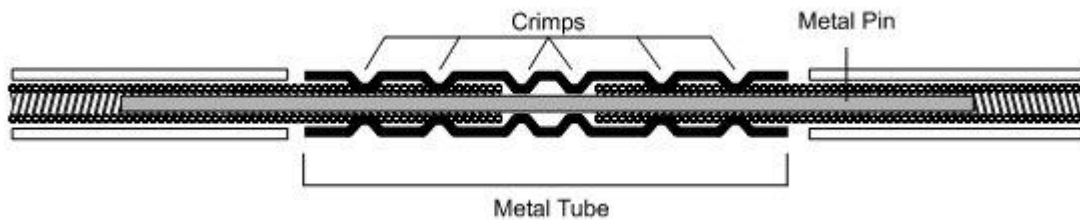

Figure 5: Coupler Assembly Showing Areas to Crimp with Crimp Tool
5. Crimp the metal tube twice on this end. (See Figure 5)